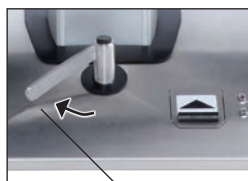

Fig. 8
- Push the lever to the left (❷, fig. 8) to extend the chassis.